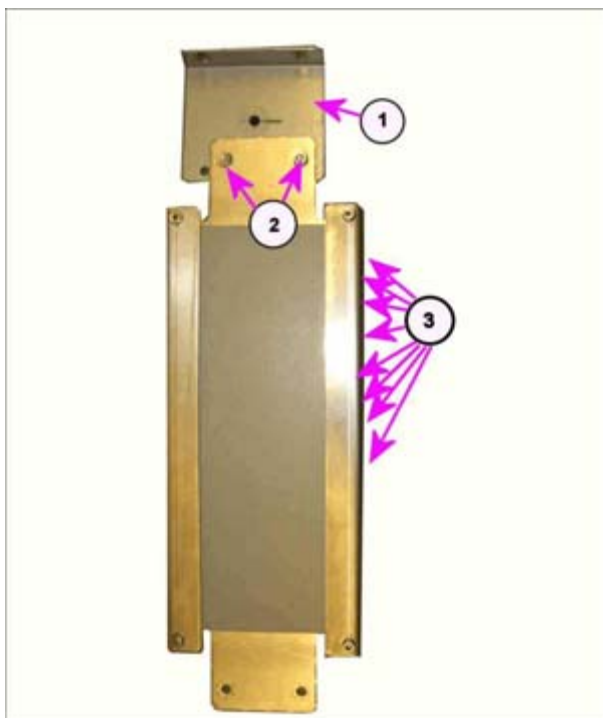

Fig. 28: Network hub, installation of mounting bracket
The installation kit contains an additional angled mounting bracket that is not shown in the illustration here: (Fig. 18 / p. 30). The new angle bracket can be seen here: (1/ Fig. 28 / p. 36).
- **M450:** Attach the angle bracket (1/Fig. 28 / p. 36) with the metal holder for the network hub to the threaded bolt, using washers and nuts (2/Fig. 28 / p. 36). The RJ45 network sockets on the network hub (3/Fig. 28 / p. 36) face toward the right.